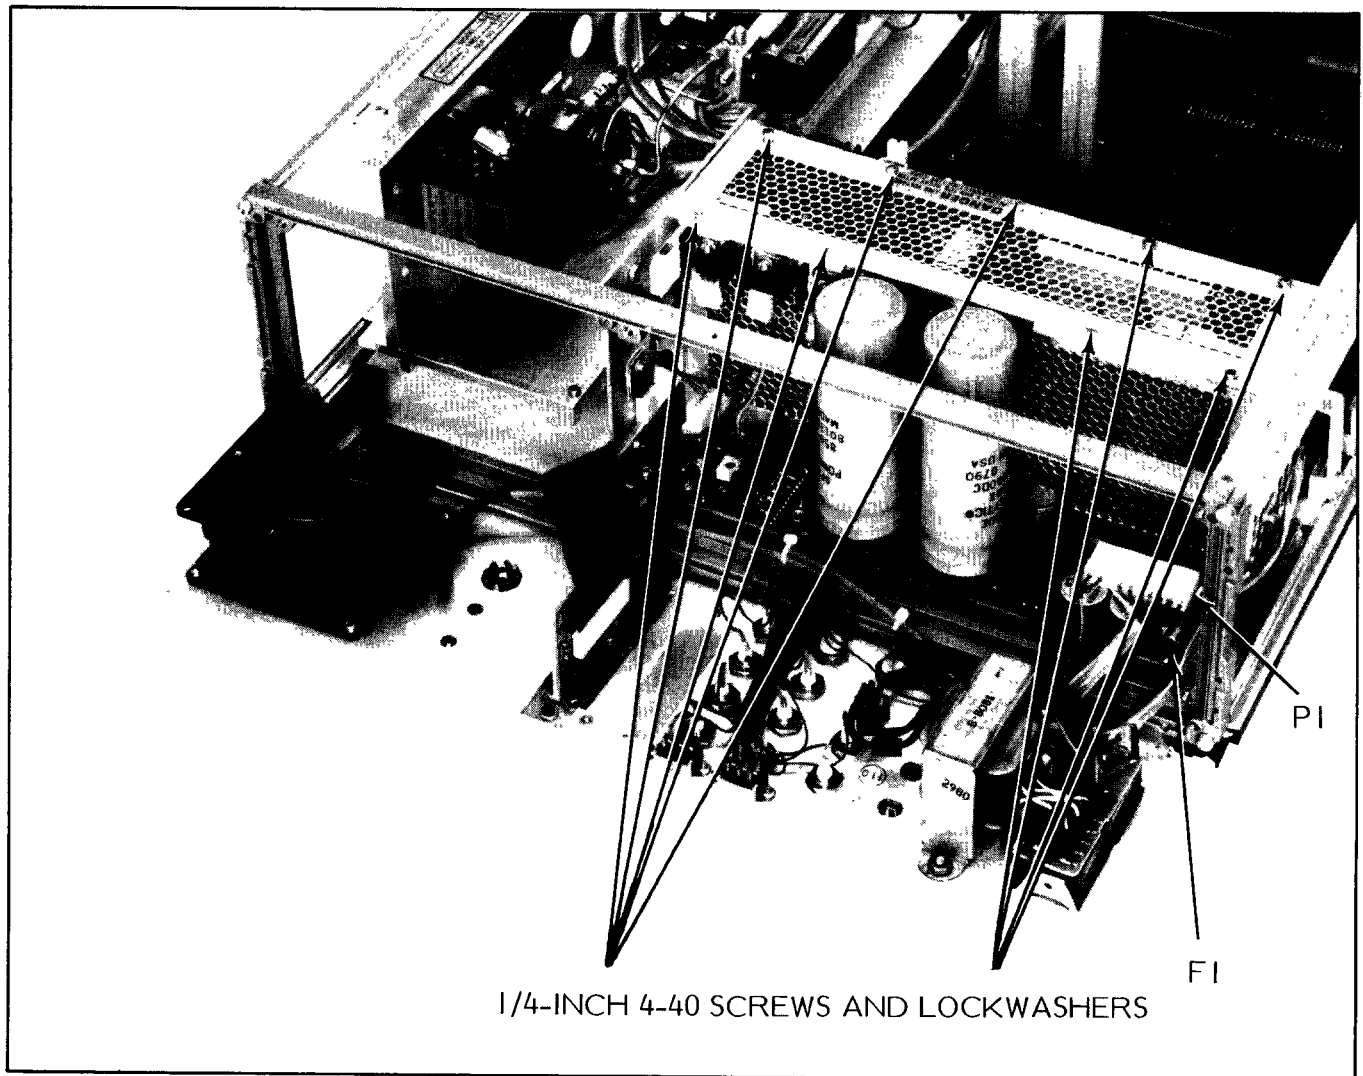

Figure 7-5. 6600 Series Programmable Sweep Generator, Rear Quarter Panels and Assemblies
3. Disconnect the Molex connector from A14P1 (Figure 7-5).
Avoid touching the terminals on the 5A FB fuse, A14F1, (Figure 7-5) when power is turned on. +165 Vdc is present on these terminals.